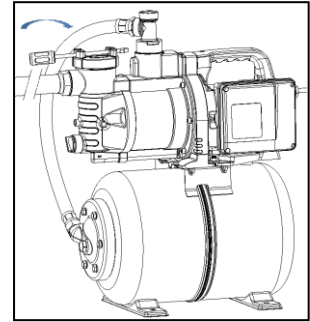

Fig.7
3. Take out the bar and screw the filter lid back by rotating clockwise. Please make sure the check valve in the filter is intact and can slide smoothly, and the seal of filter cover isn't dirty or lost in the filter (Fig.7).